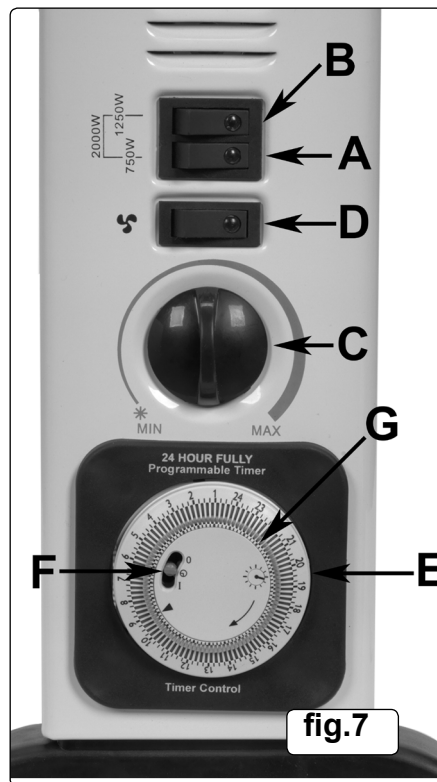

fig.7
- 4.1. **Operating the heater.** (See fig.7)
4.4. Turn the thermostat knob (fig.7.C) to a high setting.
- 4.6. **Using the thermostat.**(fig.7.C)
4.8.1. To activate timer function, turn the outer ring (fig.7.E) to the correct time. This will need to be repeated every time that the heater is reconnected to the power supply.
- 4.8.2. The function selector switch (fig.7.F) has three positions:
- 4.8.3. To select the time during which the heater is active, move the timer pins (fig.7.G.) outwards for the period required. Each pin is equal to 15minutes.